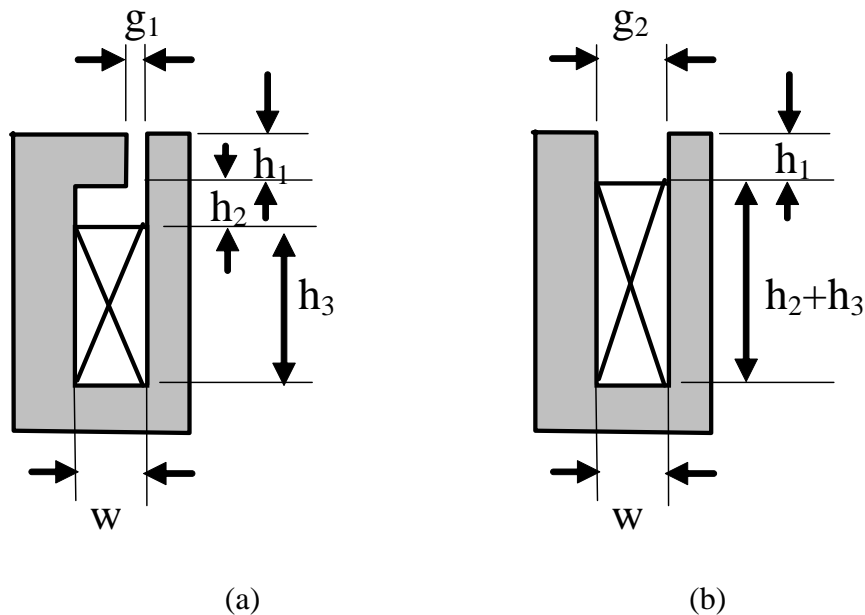

Figure 2 (Number of turns in the slot is N)
2. a. Derive an expression for the slot leakage inductance per-unit length, for a slot shown in Figure 2(a), specifying any assumptions which need to be made (Full marks will not be given if the assumptions are not specified)
- b. For the design of large wind power generators and hydroelectric generators, it is often preferred to employ open slots, as illustrated in Figure 2(b). Show the difference in winding inductances between Figure 2(a) and 2(b). (Full marks will not be given if the evidence is not provided). (8)
- c. State the advantages and disadvantages of slot configurations shown in Figures 2(a) and 2(b). (6)
- d. Show how winding pitch and distribution affect the winding inductance. (2)
- (4)